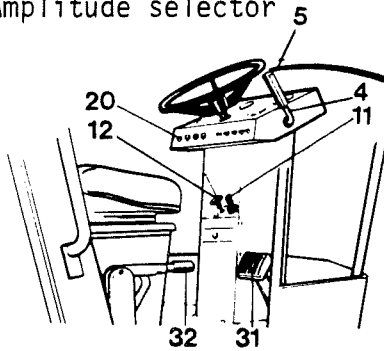

Fig. 12 Operator's platform
(See Fig. 12)
(See Fig. 12.) The roller is normally braked using the forward/reverse lever (4). The hydrostatic transmission stops the roller when the lever is moved to NEUTRAL.
(See Fig. 12.) the roller is equipped with a foot brake (31) for emergency situations, and this acts on the rear wheel drum brakes.
- 1 Use the switch (5) to switch off vibration.
- 2 Stop the roller by moving the forward/reverse lever (4) to NEUTRAL.
- 3 Press in the throttle (11) until the engine idles at 800-1000 rpm and let it run at this speed for a few minutes.
- 4 Turn the starter knob (20) to the "0" position and pull out the stop control (12) (Deutz & GM models).
- 5 Apply the handbrake (32).